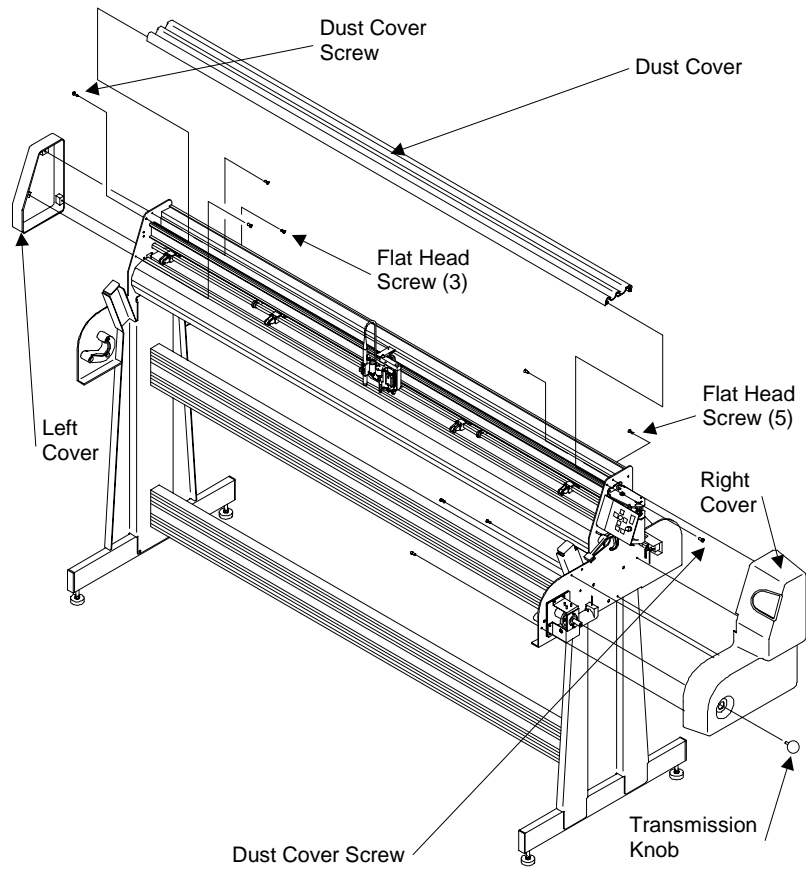

Figure 24. Removing the End Covers and the Dust Cover
4. Use a screw driver to remove the two dust cover screws, one from each end of the Summit 2200. Make sure you remove only the two dust cover screws (refer to Figures 24 through 26).